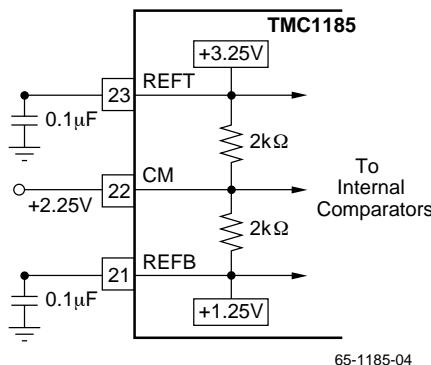

Figure 3. Internal Reference Structure
The analog input of the TMC1185 can be configured in various ways and driven with different circuits, depending on the nature of the signal and the level of performance desired. The TMC1185 has an internal reference that sets the full scale input range of the A/D. The differential input range has each input centered around the common-mode of +2.25V, with each of the two inputs having a full scale range of +1.25V to +3.25V. Since each input is 2V peak-to-peak and 180° out of phase with the other, a 4V differential input signal to the quantizer results. As shown in Figure 3, the positive full scale reference (REFT) and the negative full scale reference (REFB) are brought out for external bypassing. In addition, the common-mode voltage (CM) may be used as a reference to provide the appropriate offset for the driving circuitry. However, care must be taken not to appreciably load this reference node. For more information regarding external references, single-ended inputs, and input drive circuits, refer to the applications section.